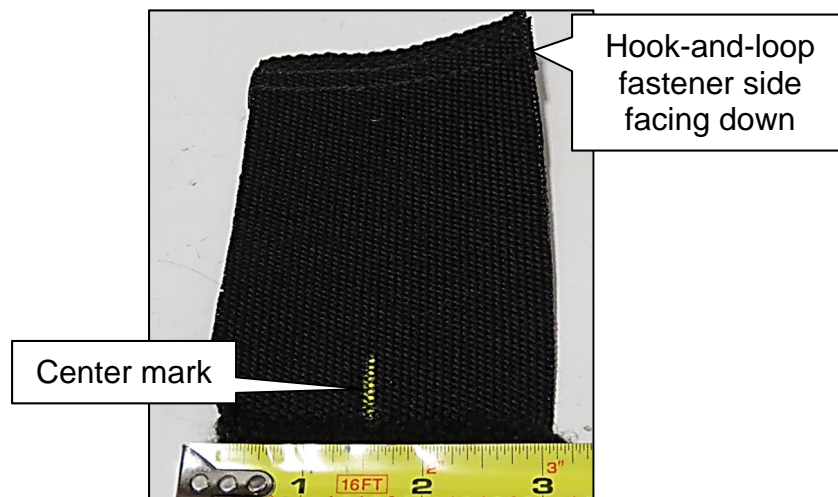

Figure 12
10. With the hook-and-loop fastener side facing down, measure the wire harness protector 30 mm (1.5 inch) from either side, and place a mark in the center, as shown in Figure 12.